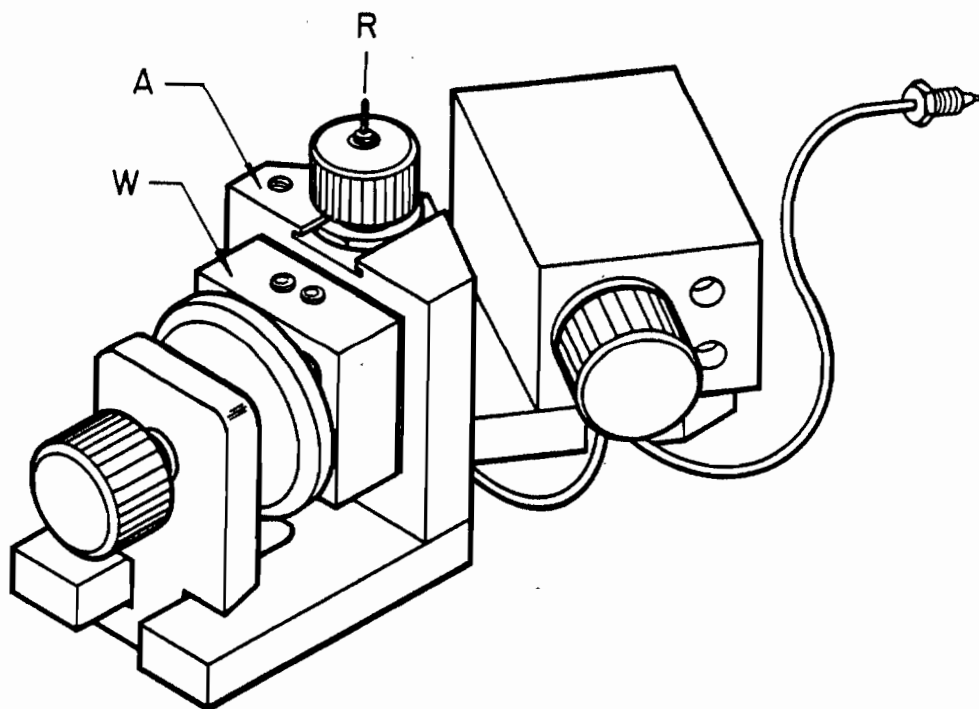

Figure 4-3. Schematic representation of thin-layer cell design for LC-17A and BAS 200 systems.
Beginning in 1986, Bioanalytical Systems established a new standard for its electrochemical transducers in the BAS 200 and BAS 400 liquid chromatography systems (Figure 4-3). As from the beginning, the proven thin-layer concept remains central to this design. In it, two blocks form a sandwich around a thin fluoropolymer gasket which defines a microliter flowcell. Two working electrodes (glassy carbon or other material) are embedded along one wall of the channel, whereas the reference and auxiliary electrodes are directly opposite, typically only 50 micrometers distant.
Glassy carbon, carbon paste, mercury amalgamated gold, platinum, nickel and silver have all been used in electrochemical cells similar in design to that shown in Figure 4-3. For chromatographic purposes we are most concerned about: (1) range of available potential, (2) chemical and physical compatibility with the mobile phase, and (3) long-term stability. In the usual case, all three considerations are closely related.
The cell described in Figure 4-3 possesses very low uncompensated resistance. The electrodes face each other directly across the thin-layer channel. Hence, even if cell currents reach hundreds of microamperes, E_{Ru} remains negligible and the interfacial potential remains constant.